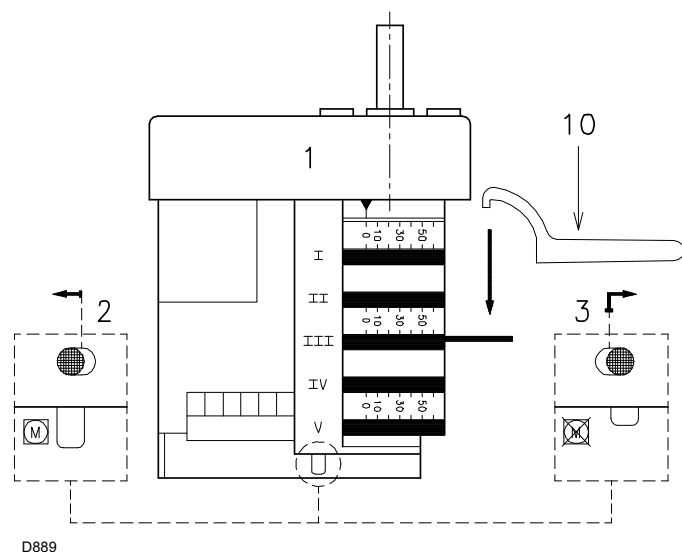

Fig. 32
For any necessary adjustment of cam III, especially for small movements, use the specific key 10)(Fig. 32) held in place beneath the servomotor with the aid of a magnet.
- Once the adjustment is complete, with the burner off, unlock the servomotor and, by pressing button 3)(Fig. 32) and moving it to the right, manually check that there is no jamming between 0° and 130°.
- During the adjustments of intermediate outputs, it is recommended to adjust air to positions that allow the bearing that slides over the cam variable profile sheet to be positioned directly next to one of the screws 3)(Fig. 32), so that the adjustment performed on a screw affects adjacent adjustments to the minimum extent possible.
- 5 s :** Servomotor start-up: turn to the right by 130°, i.e. until the contact intervenes on cam I) (Fig. 32 on page 28).
- 69 s :** The servomotor rotates to the left until the contact on cam Iii) activates (Fig. 32 on page 28).
Release cam 2)(Fig. 31 page 27) from the servomotor, by pressing and shifting button 3)(Fig. 32 on page 28) to the right. Manually rotate it backwards and forwards to make sure it moves smoothly.
Now engage the cam again by shifting the button 2)(Fig. 32 on page 28) to the left.